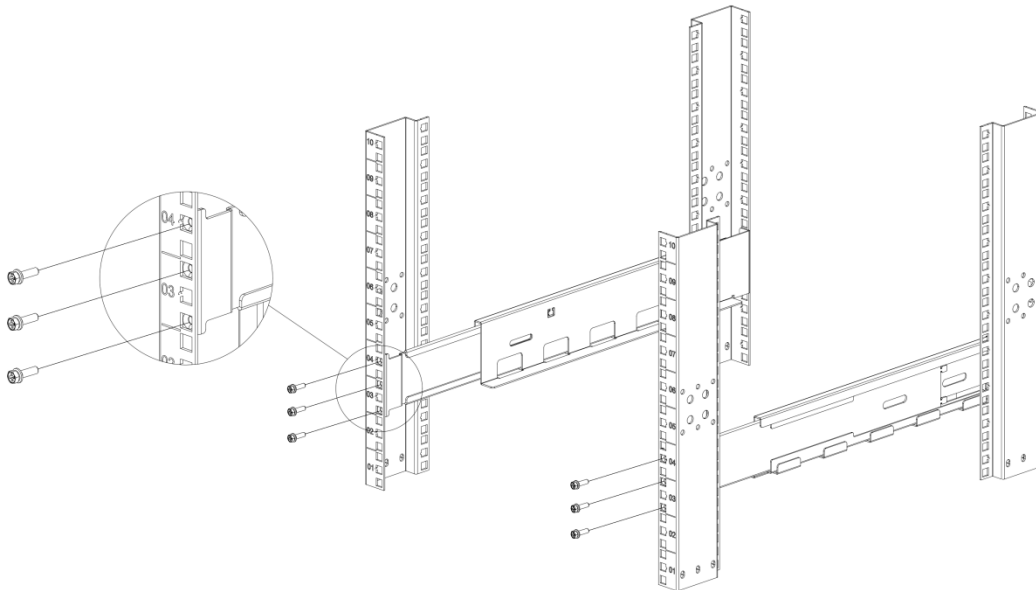

Figure 20: Install the Rear Side of Rails
4. Assemble the rear side of the rail kit with 3x Phillips Pan Head M5 screws (see Figure 20) on each rail.